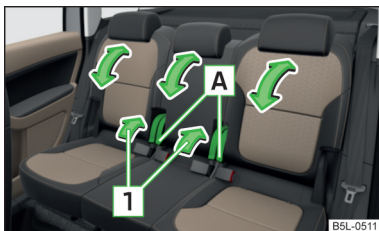

Fig. 49
- Pull lever **A** lever on the bottom in the direction of the arrow **1** » Fig. 49 pull and set the desired tilt of the seat back in the arrow direction.
- › Pull the lever **A** » Fig. 49 on page 68 and fold the seat backrests of the outer rear seats onto the seat cushion as far as the stop.
- › Fold the middle rear seat backrest forwards in the same way, then pull once more on the lever **A** » Fig. 49 on page 68 and press the seat backrest downwards until it is heard to lock into a lower position.